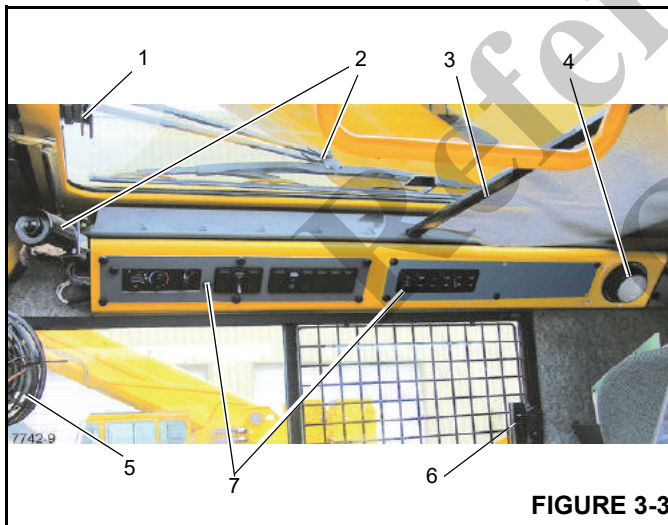

FIGURE 3-3
The skylight window latch (1, Figure 3-3) is at the front of the window. Squeeze the latch and slide the window to the rear to open. To close, slide the window forward until the latch engages.
The skylight wiper (2, Figure 3-3) is controlled by the wiper switch (4) and operated by the wiper motor (2).
The Skylight Sunscreen (3, Figure 3-3) is used to diminish direct sunlight. The sunscreen is self retracting and can be set to screen all the light or adjusted rearward by moving it into the notches provided.
The cab Overhead Light (4, Figure 3-3) is on the right rear corner of the cab overhead console and provides illumination in the cab. The Overhead Light is controlled by a switch on the light.
The Cab Circulating Fan (5, Figure 3-3) is located on the left front side of the cab, above the window frame. A swivel allows the fan to be rotated and a switch on the fan base controls the fan. The switch has a High, Low and Off position.
The Dimmer Switch (5, Figure 3-4) controls the lighting for the overhead panel display (7, Figure 3-3), push the switch to increase or decrease the panel lighting.